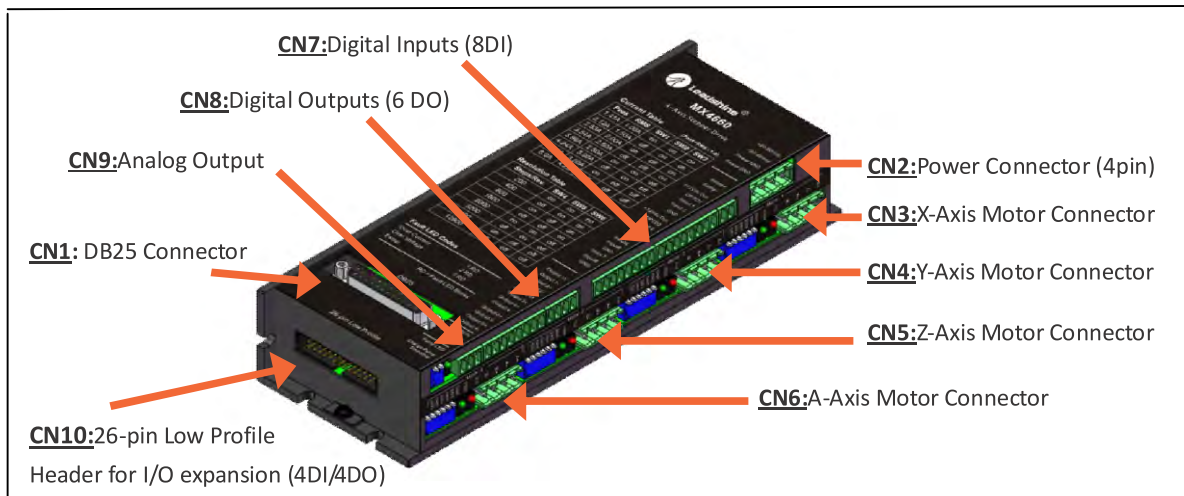
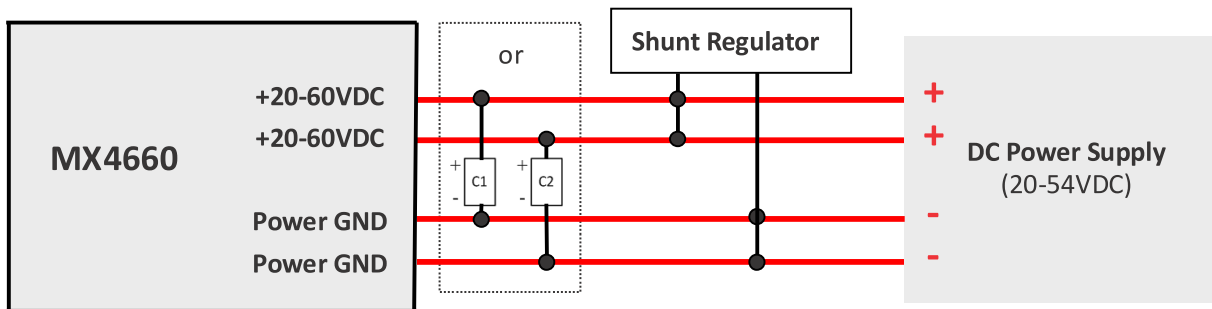

Figure 3 MX4660 layout
Figure 4 Power supply connections
Before you start hardware connection, refer to the following MX4660 layout diagram (figure 3) for connector/DIP switch location. Read the MX4660 datasheet for each connector explanation. Then, get the following prepared:
The power supply connector is located at the upper left side of MX4660 ("CN2" in Figure 3). The power supply of the MX4660 can be connected as illustrated in Figure 4. Although MX4660's working voltage is 20-60 VDC, we suggest the use of a 24-54 VDC power supply to leave room for back EMF voltage charge back during motor deceleration. Two pins design for up to 20A applications. **For higher reliability, it is suggested to add a shunt regulator with the DC power supply to discharge the energy/ back-EMF generated during rapid deceleration or in case of emergency when have to push the E-stop button when the motors are running. Or even add 2 big capacitors between +20-60VDC and Power GND will be helpful if a shunt regulator is not available.**
There are 4 stepper drive modules for the MX4660 to allow connections of up to four 2-phase stepper motors. Because of the wide output current range from 1.41 to 6.0A for each stepper drive module, the MX4660 can drive various stepper motors in frame sizes NEMA 17, 23, 24, and 34. You can find the 4 stepper drive module location at CN3, CN4, CN5 and CN6 on Figure 3. These stepper motors can be 4-lead, 6-lead, or 8-lead stepper motors.
*The E-Stop connection is required.* The E-Stop connector is located next to the power connector (Figure 3). **By default, the MX4660's activation requires an emergency stop switch connected, or having the two connection pins, "ESTOP+" and "ESTOP-", shorted.**
*The PWM pin connection is optional.* The MX4660 can take PWM signals from the controller, through Pin 14 of the DB25 connector, transform it into an analog signal, and output as analog voltage signal at the “0-10V” pin of the analog output connector (Figure 3). This will allow the control of an external analog device such as a VFD for spindle speed control in a CNC router.